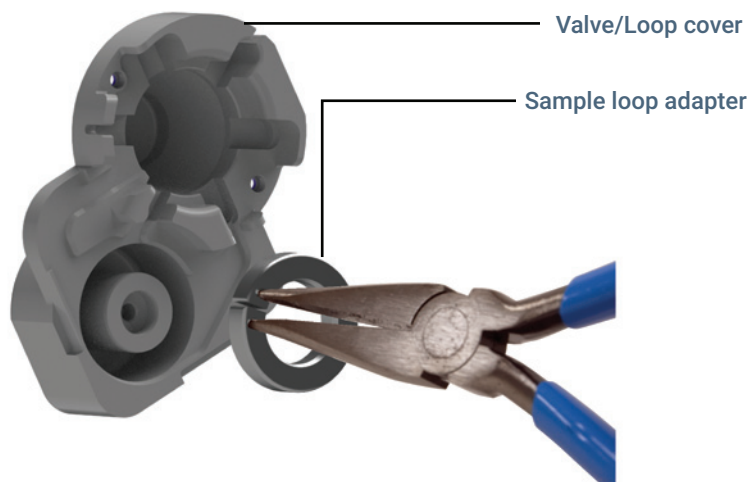

Figure 22. Removing a sample loop adapter (G4556-20178 shown) from the valve/loop cover
- a Grip the sample loop adapter using needle nose pliers in the locations shown in **Figure 22**.
- b Squeeze the needle nose pliers together and gently pull the sample loop adapter from the block or cover as shown in **Figure 22**.